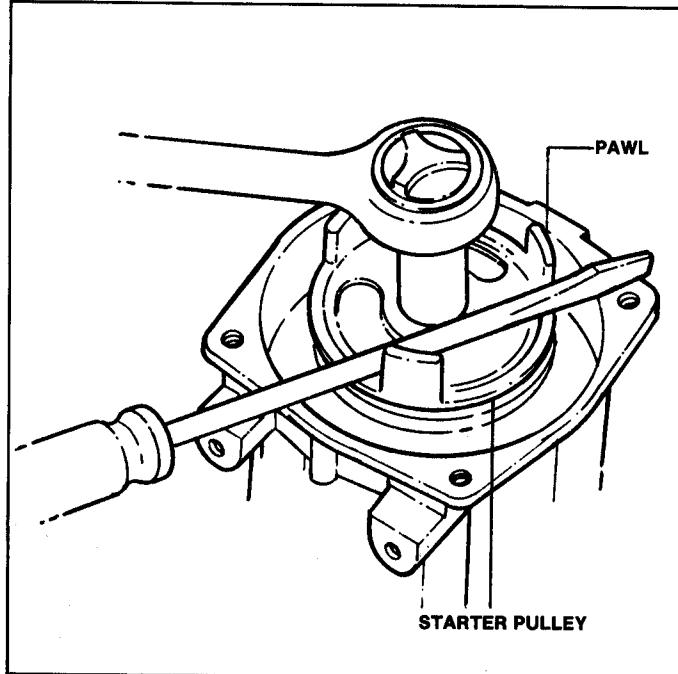

FIGURE 4.2
B. Remove 3 - pronged starter pulley. (Fit screwdriver between pawls of pulley to prevent turning. See Figure 4.2). Turn pulley counter clockwise.